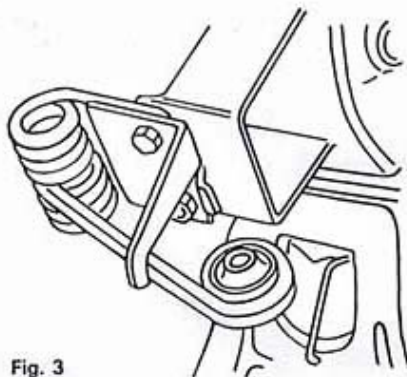

Fig. 3
- Remove the loading springs and the stop bracket (10mm wrench, fig. 3).